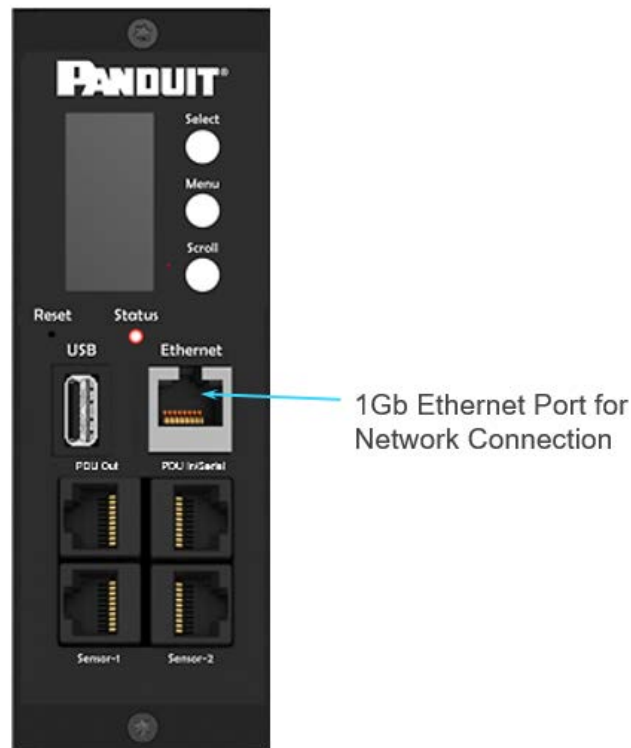

Figure 1: Ethernet Port for Network Connection
2. Connect one end of the cable to the Ethernet port on the PDU (see Figure 1). Connect the other end of the cable to the Ethernet port on the router (or another LAN device).
2. Using the optional RJ45-DB9 cable (Panduit p/n: MA001), connect the RJ-45 end to the port labeled “PDU In/Serial” on the front panel of your PDU model (see Figure 1). Connect the DB9 end of the cable to the computer.